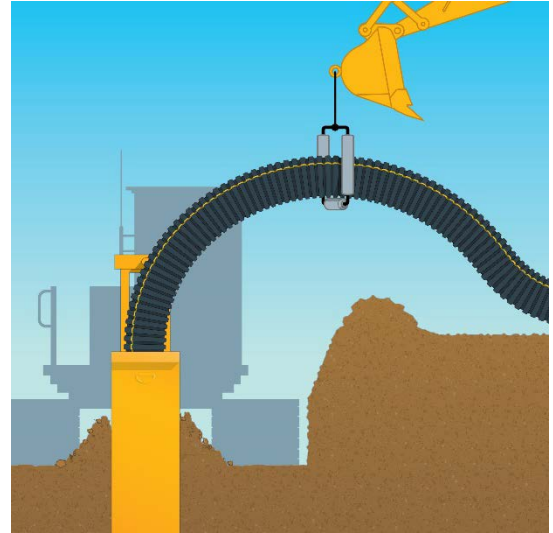

Figure 3: Goldflex Support Guide
- To aid with installation, a support should be used to help guide the pipe from the ground into the boot and avoid obstacles (Figure 3). If a guide is not used, someone should walk with the tile plow to support the pipe and form an even arch into the boot.